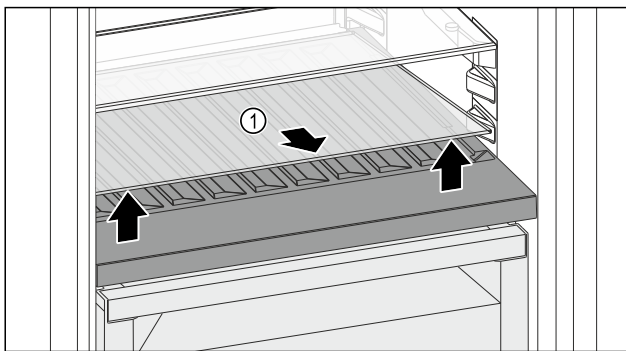

Fig. 226
- Lift the glass shelf Fig. 226 (1) at the front and remove.
- Store the glass shelf Fig. 226 (1) in a safe place outside the appliance.
- Insert the glass shelf (2) under the variable bottle rack.